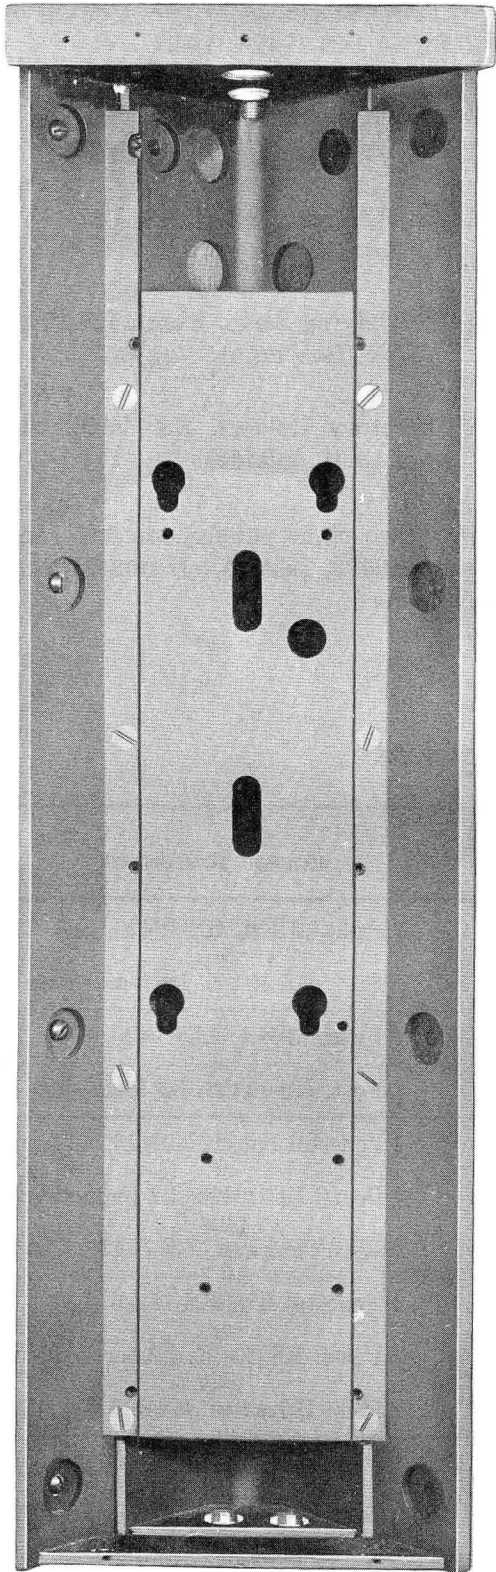

Fig. 13 — KS-19426, List 4 Support
- (c) A List 4 support (Fig. 13) must be used for post-mounted applications when housings are installed in multiples of three and four. See Fig. 5.
- (a) A List 4 support (Fig. 13) is used for mounting a housing in a corner.